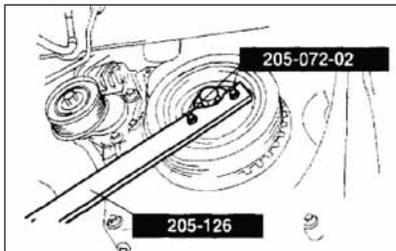

Figure 4 Tighten the crankshaft pulley lock bolt on 2.0L and 2.3L Mazda engines.
4) Hold the crankshaft pulley using the service tools shown in **Figure 4**, above.